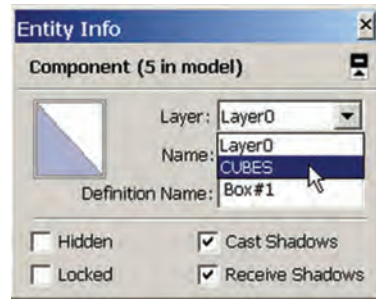

Fig. 3-20: The Entity Info menu lets you place geometry on specific layers.
3. The Entity Info menu box will appear. The Layers window indicates the layer on which the selected objects reside—currently Layer 0. Selecting the pull-down arrow to the right of layers will provide a list of all the layers in the model (Fig. 3-20). By selecting a layer from the list, you can place all selected geometry onto that layer. With the Cube components still selected, select the Cubes layer.